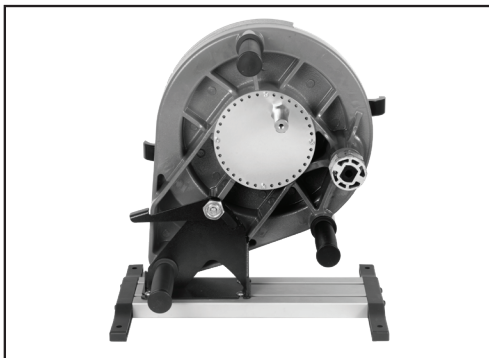

Figure 10. Post Correctly Positioned for PT200
2. When the PT200 is being used, the Post on the back of the bender must be in the correct position to properly align with the clamp rod slot on the Power Driver. The best way to ensure that it is positioned correctly is to make sure the top screw on the back plate is in the third screw hole away from the Post. If it is not in the correct position, use a 3mm metric Allen wrench to unscrew the 4 screws holding the back plate in position. Rotate the back plate and post as necessary and screw the 4 screws back into place. **See Figure 10**
2. The post on the back of the bender must be in the correct position to properly align with the clamp rod slot on the Power Driver. If it is not in the correct position, use a 3mm metric Allen wrench to unscrew the 4 screws holding the back plate in position. Rotate the back plate and post as necessary and screw the 4 screws back into place. Installation of the Post Adapter may be necessary to stabilize threaders with a larger clamp rod slot. **“See 6.5 Post Adapter”**. **See Figure 10**
2. The post on the back of the bender must be in the correct position to properly align with the clamp rod slot on the Power Driver. If it is not in the correct position, use a 3mm metric Allen wrench to unscrew the 4 screws holding the back plate and post as necessary and screw the 4 screws back into place. Installation of the Post Adapter may be necessary to stabilize threaders with a larger clamp rod slot. **“See 5.5 Post Adapter”**. **See Figure 10**